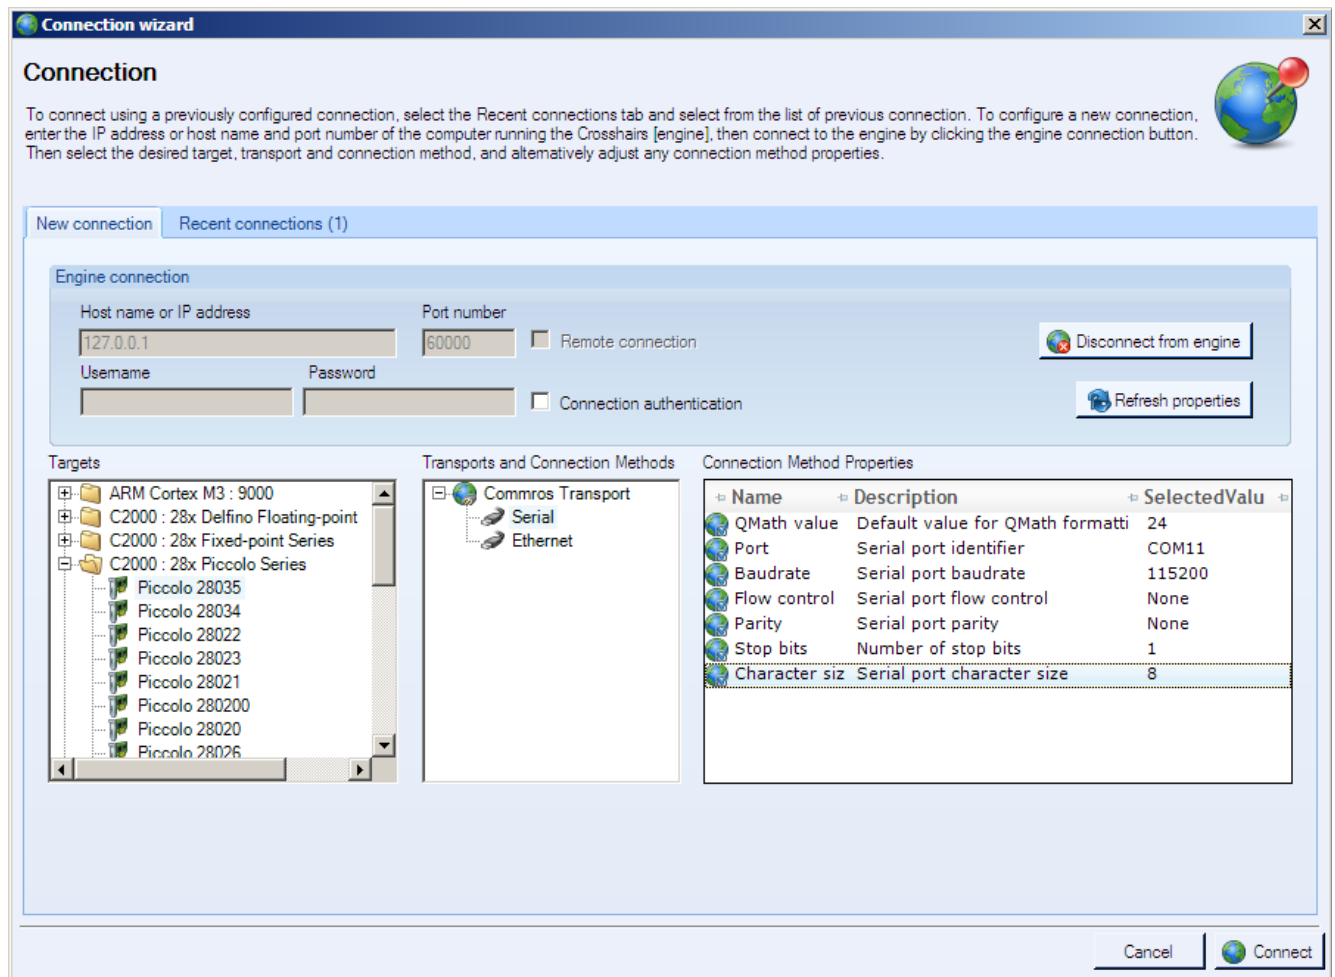

Fig5: GUI Setup Connections
- 6) The GUI should auto-detect and connect to your HVDMC Kit. If auto-connect fails you will need to set up the connection manually. The Connection Wizard is accessed through the Connection menu. Click on “Connect to engine” to view a list of available targets. Now setup the Connection Wizard Dialog to match Fig 5. Select Piccolo 28035 from the Target list and Serial for connection method. You will need to determine the correct COM port number for your system. This can be found by going to Control Panel->System->Hardware tab->Device Manager->Ports(COM & LPT). And look for the one which is described as USB Serial Port or similar. Hit Connect once done. Now select the appropriate COM port. This can be found out by going to